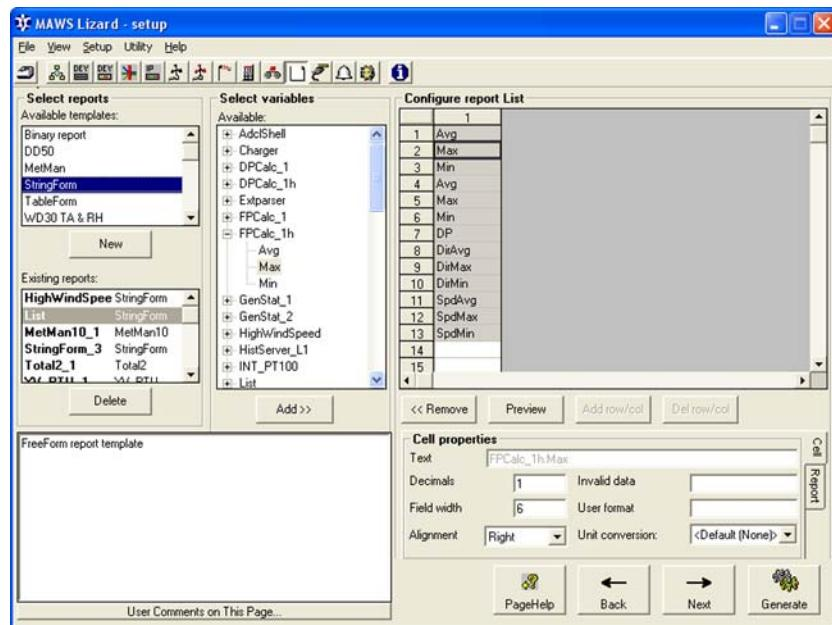

Figure 32 Reports View: Available Templates
2. In the **Select reports** frame, select the desired preformatted template from the **Available templates** list, and click **New**. See Figure 32 on page 84.
4. Replace all listed tags with the actual variables by selecting the desired cell from the report, and by selecting an item from the **Available** list in the **Select Variables** frame and drag and dropping it to the cell with the mouse or by clicking the **Add** button. See Figure 32 on page 84 for an example of the predetermined report with the actual variables. You may enter a fixed text in a tagged cell, if your setup does not produce the required data. However, note the capabilities of the device to which the report is sent, for example, you cannot use slash characters "/" with a device that has 7-segment display elements.